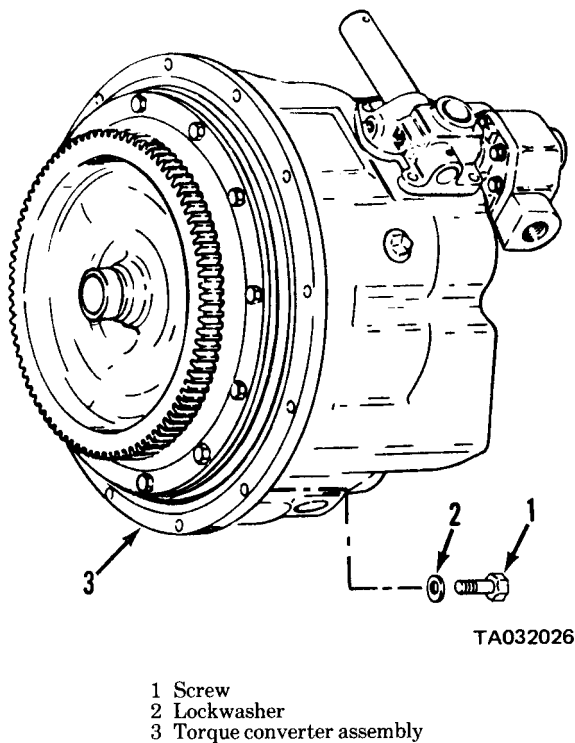

Figure 2-3. Torque converter, removal and installation.
(1) Removal engine hood and panels, transmission external filter, battery holddown cover and batteries (TM10-3930-634-12).
(2) Remove six screws, flat washers, lockwashers and bevel nuts and remove hood and battery support.
(3) Tag and disconnect hydraulic lines and linkages, and remove hydraulic pumps (TM 10-3930-634-12).
(4) Disconnect propeller shaft (para 5-5).
(5) Use a suitable lifting device to support the torque converter; refer to figure 2-3 and remove the twelve screws and lockwashers (1, 2) which secure the